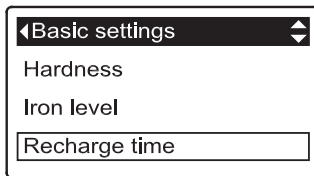

FIG. 100
3. Press the SELECT (O) button to display the Basic settings menu (See Figure 100).
7. Press the SELECT (O) button. The display will go back to the Basic settings menu (Figure 100).